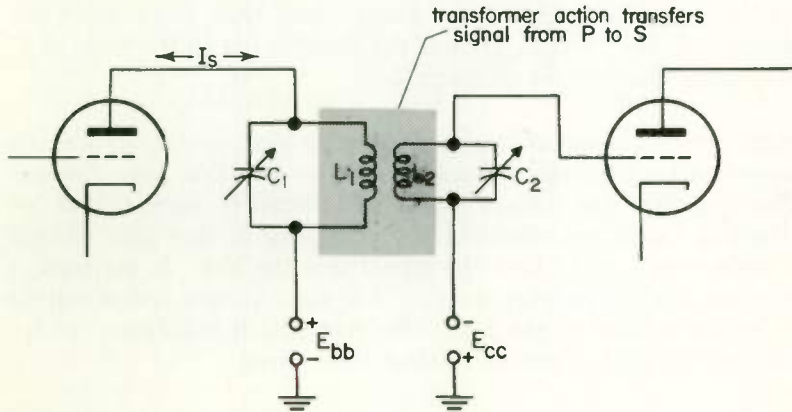
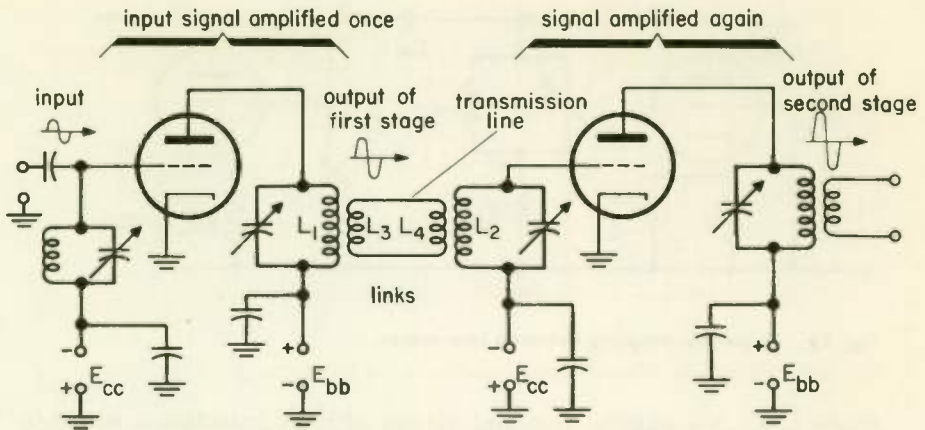
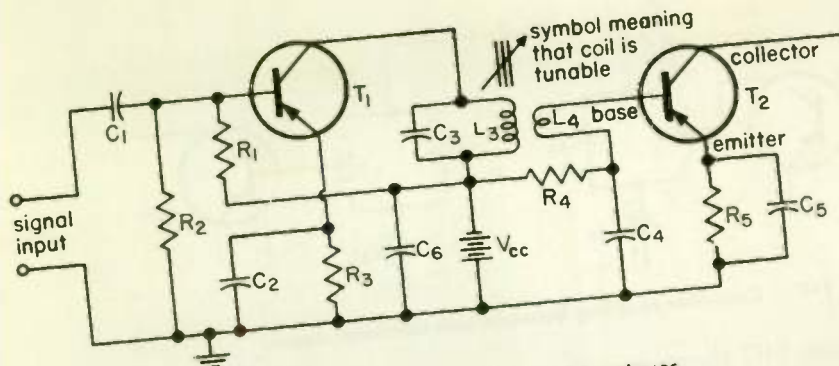
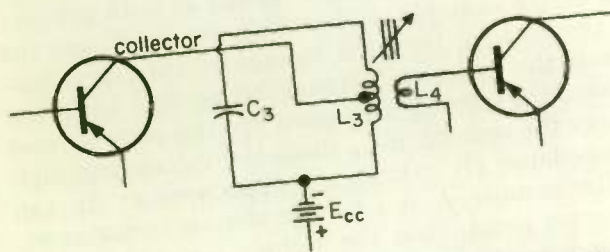

Fig. 13 Transformer coupling between tuned stages.
Fig. 14 Two TPTG amplifier stages in cascade, using link coupling.
Fig. 14A Simple transformer coupler between transistor stages.
Fig. 14B Transistor coupling using tank circuit with tapped coil.
A method of coupling two stages by *transformer or inductive coupling* is shown in Fig. 13. Coil L_2 is placed close to L_1 , so that L_1 is the primary and L_2 the secondary of a transformer. The signal current flowing in L_1 is transferred to L_2 by transformer action, and thus reaches the grid of the following stage.
Sometimes the equipment is so layed out that L_2 of Fig. 13 is at a distance from L_1 . By a method called *link coupling*, shown in Fig. 14, L_2 can still be coupled to L_1 . In this figure, L_1 couples the signal by transformer action to L_3 . From L_3 it is conveyed by the transmission line to L_4 . The signal current flowing in L_4 induces the signal into L_2 .
Methods of coupling transistor tuned stages differ in certain respects from the methods for vacuum tubes. Figure 14A shows a transformer coupling between two transistor stages. Winding L_4 differs from L_2 of Fig. 13 in that it consists of only a very few turns. L_3 - L_4 is thus a voltage step-down transformer. Now a transformer that steps down the voltage steps up the current. Hence, the current fed to the base of T_2 is greater than the current through L_3 .
Figure 14B differs from Fig. 14A in that the collector connects to a tap on L_3 . This reduces the tank circuit impedance as seen from the collector, resulting in better gain from the amplifier. You will seldom see the plate of a tube connected to a tap on the tank circuit. The plate resistance of a tube is high, and to match it properly to the tank circuit, the latter impedance should also be high. The collector resistance of a transistor is much lower than the plate resistance of a tube. A better match is obtained when the collector is tapped to a lower impedance point on the tank circuit than at the top. A match gives the strongest signal transfer to the base of the following stage.
2. If you apply a 0.1-volt input signal to the input of the first amplifier in Fig. 13, the voltage appearing at the grid of the second tube will be (\circ) _____ volts if the gain of the first amplifier is 10. If the gain of the second amplifier is also 10, the voltage at the output of